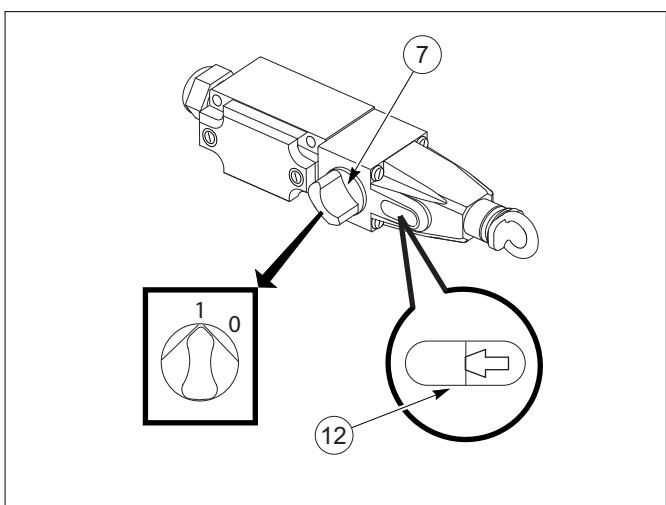

fig. 15 The cord tension is correct
See fig. 15.
8. Set turning knob **7** to the "1" position to activate the switch. See fig. 15.